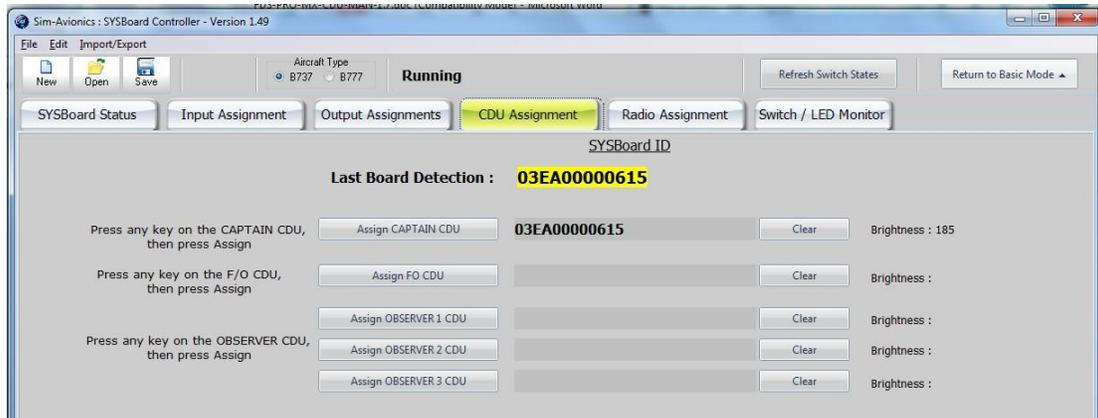

Fig.10
- 7) CDU will show assigned and Press “SAVE” (Fig.10)